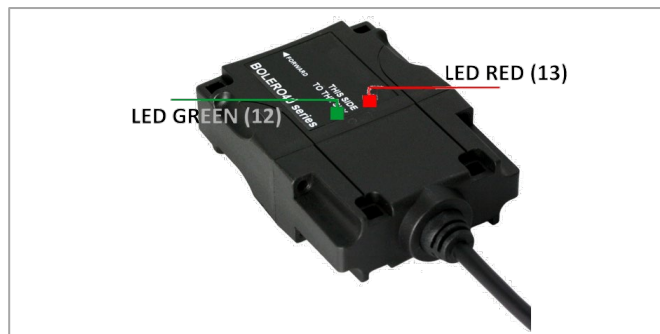

Figure 13. LED indicators
1. Remove the power supply and any other connections from the device. Hold the device with the two LEDs facing the sky (see Figure 13). If the device case is already screwed together then unscrew the 4 x TORX#8 screws. Screws may also be delivered in a separate plastic bag.
3. Locate the SIM card holder on the left of the PCB. Insert the primary SIM (mandatory) into the bottom SIM slot and the secondary SIM (optional) into the top SIM slot with contacts facing down and the cat edge as shown in Figure 13.